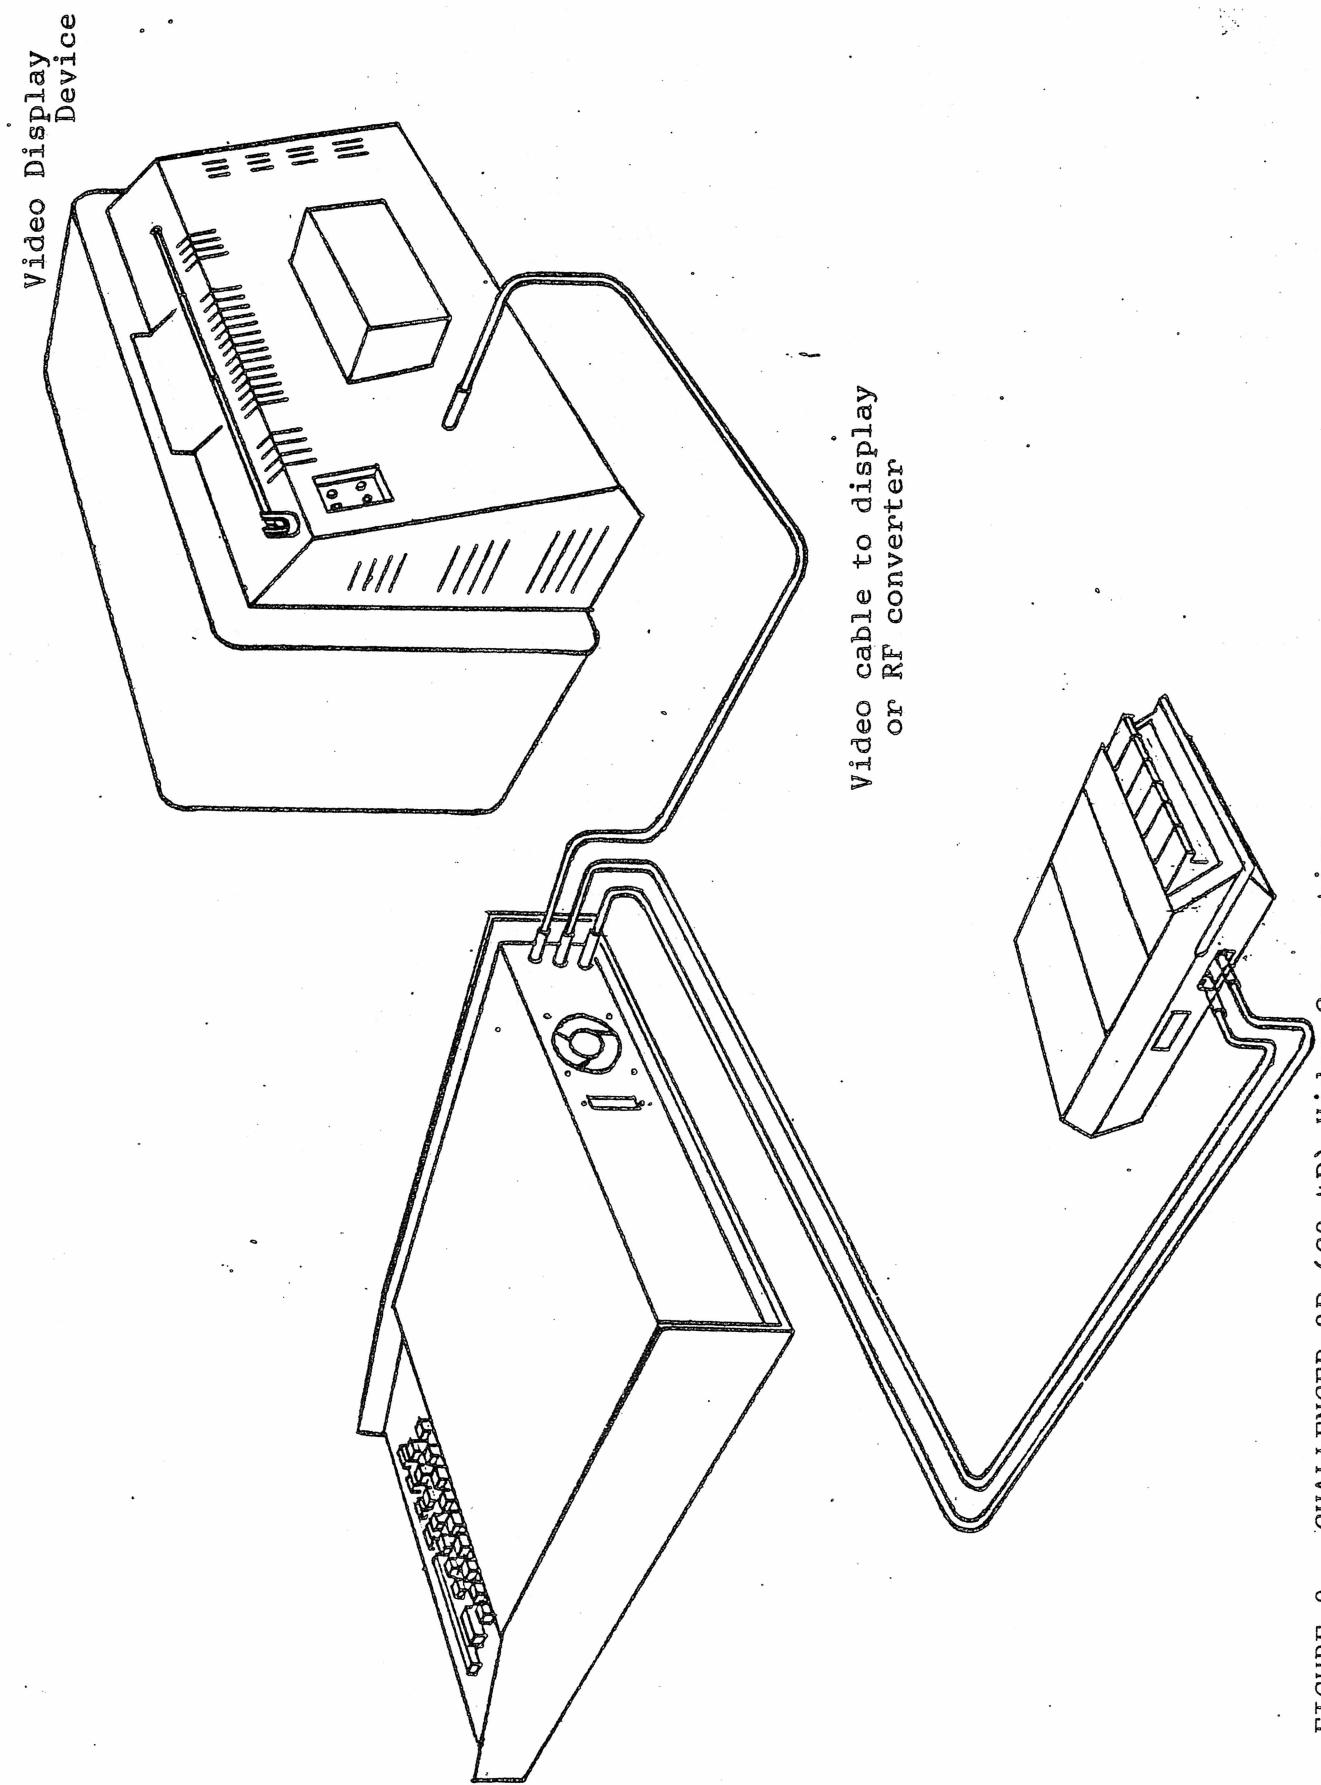

FIGURE 2. CHALLENGER 2 P (C2-4P) Video Connections.
1. Refer to Figure 2. Attach the supplied video cable to the computer as shown. With the Superboard II this cable is part of a computer video/cassette recorder cable assembly.
1. Refer to Figure 2. Review the manufacturer's instructions included with the RF modulator.